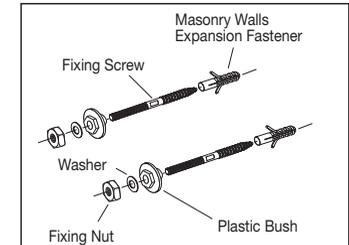

Fig. 2
- 3- Insert Expansion Fasteners into the drilled holes in masonry wall. The Fixing Screws should be screwed into the wall using the flat section of the Fixing Screw with a spanner as shown in Fig. 2. Allow 43 mm of thread to protrude from the finished wall.